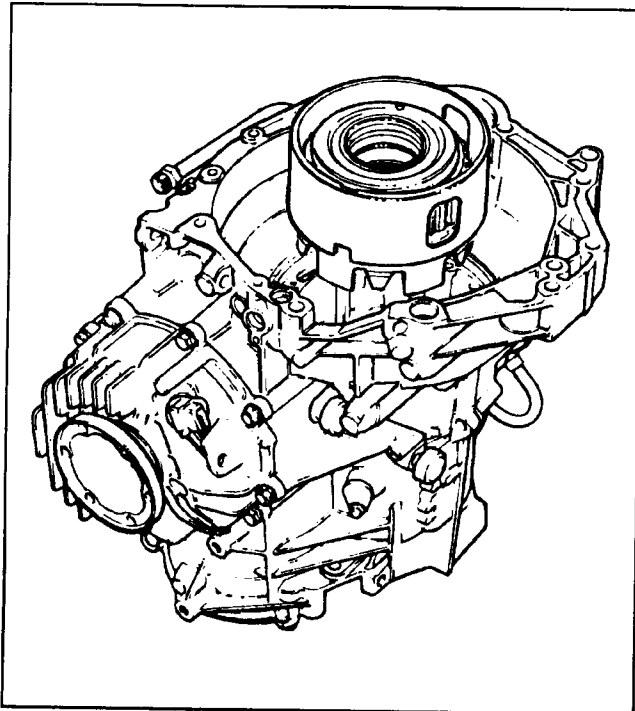

Figure 57
9. Remove the hollow supporting tube for the B2 clutches and the K2 clutch drum (See Figure 57).